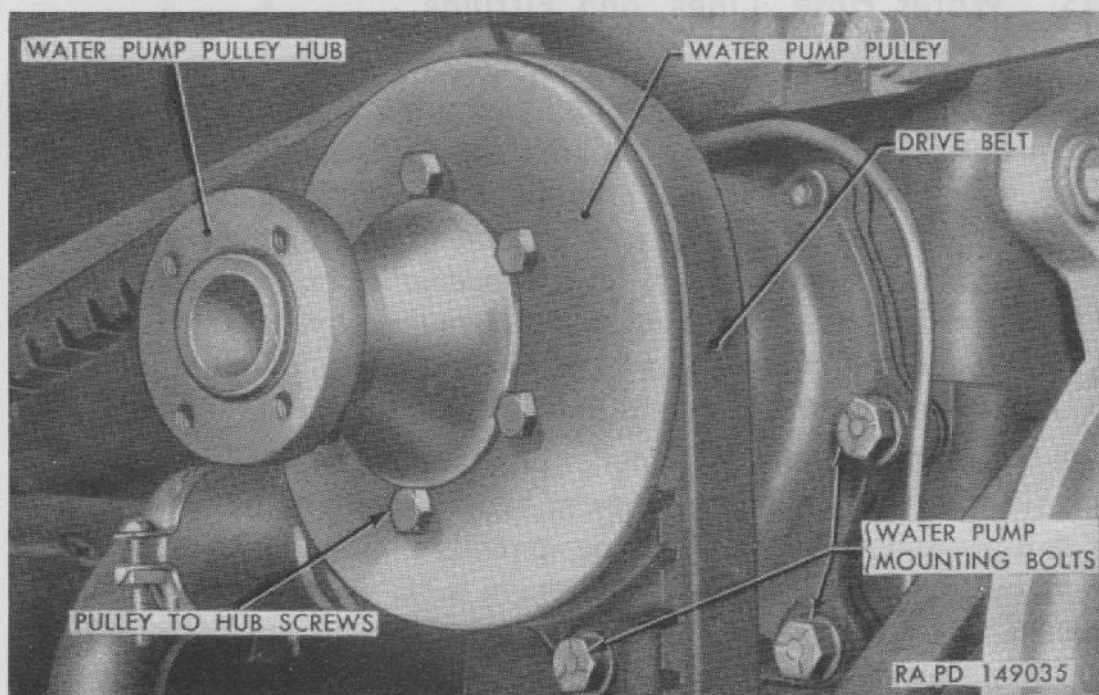

Figure 71. Water pump installed.
a. DESCRIPTION. A centrifugal type water pump (fig. 71) is mounted on cylinder block at front end of engine. The water pump is packless type and leakage around shaft is controlled by a carbon washer and seal assembly. The impeller action of the water pump forces the cooling liquid to circulate through engine water passages, air compressor, transmission cooler, radiator, and connections.
- (1) *Removal.* Remove fan blades (par. 129d). Loosen fan belt (par. 129b) until belt can be lifted from pulley. Remove six cap screws and lock washers attaching pulley to hub; then remove water pump pulley (fig. 71).
- (2) *Installation.* Position pulley to fan hub and secure with six cap screws and lock washers. Locate fan belt in pulley sheave and adjust belt tension (par. 129b). Install fan blades (par. 129d).